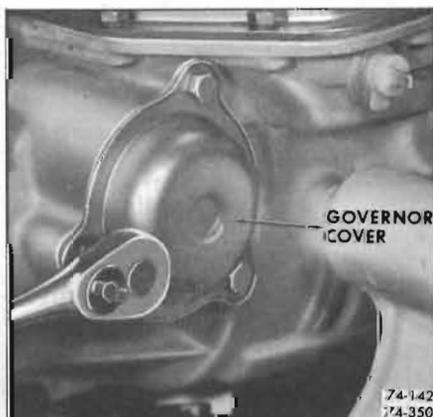

Figure 74-350
2. Install governor gasket and cover to case. Torque bolts to 8-12 lb. ft. See Figure 74-350.